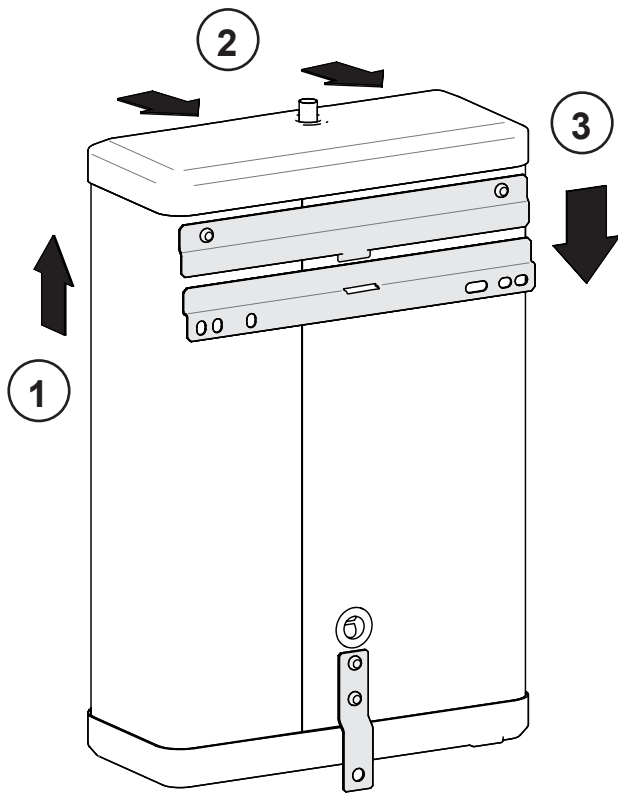

Figure 12: Bracket lifting procedure
- ▶ Refer to table 1, page 6 for the weight of the water heater empty, using an appropriate lifting method lift the water heater up and position the bottom edge of the water heater bracket over the top edge of the wall bracket, position the unit towards the wall and then lower, see figure 12, page 16